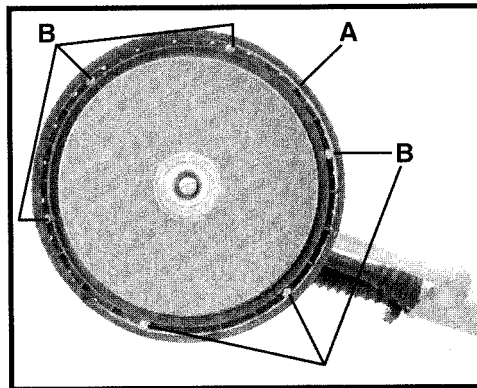

Fig. 5
On the **Model 7800**, a brush-type skirt (A) Fig. 5, surrounds the abrasive pad. This skirt serves two purposes: (1) It extends below the surface of the abrasive pad so that it contacts the work surface first, preventing the abrasive from “gouging” the work. (2) It helps contain the drywall dust until the vacuum cleaner pulls it away.
- (1) Remove abrasive pad (see ABRASIVE PAD REPLACEMENT).
- (2) Use phillips screwdriver to remove the six retaining screws (B) Fig. 5.
- (3) Lift the skirt out of housing.
- (4) Position new skirt to housing and install the six retaining screws. (5) Replace the abrasive pad.